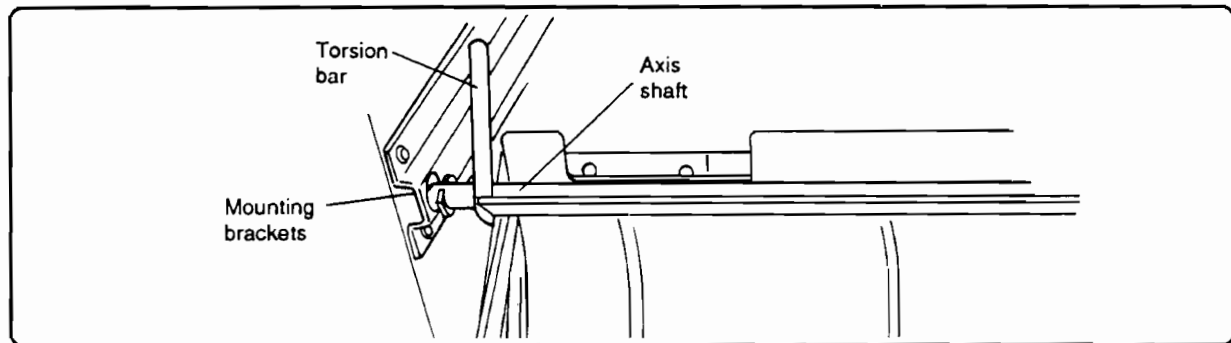

Figure 6-119. Aligning the Switchback Assembly
1. Grasp the assembly so that the torsion bars on the lower corners are facing toward the printer (Figure 6-119).